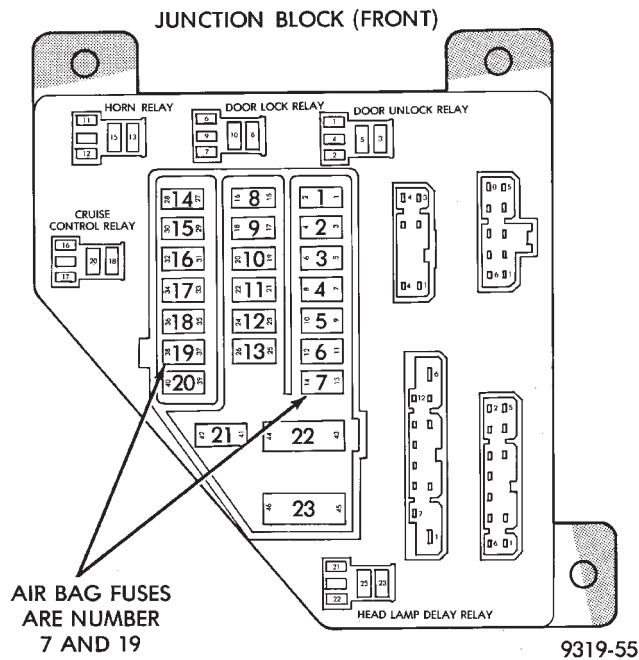

Fig. 7 Air Bag Fuse Locations
- (9) Remove the 2 air bag fuses from fuse panel (Fig. 7).